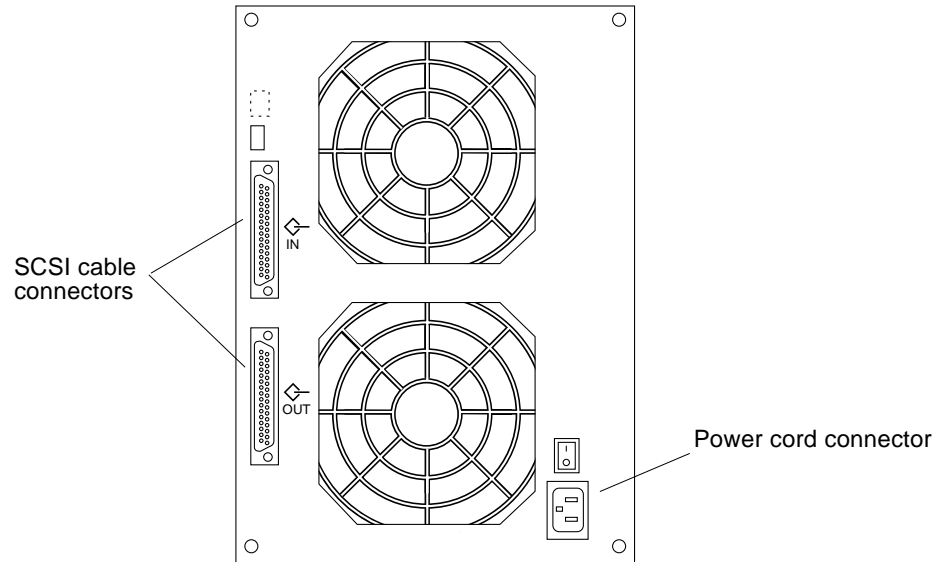

FIGURE 6-1 SPARCstorage MultiPack 2 SCSI Cable and Power Cord Connectors
- 2. Remove the SCSI cable and power cord from the enclosure (FIGURE 6-1).**
7. Attach the SCSI cable and power cord (FIGURE 6-1).
2. Remove the SCSI cable and power cord from the enclosure (FIGURE 6-1).
- 12. Replace the SCSI cable and power cord (FIGURE 6-1).**